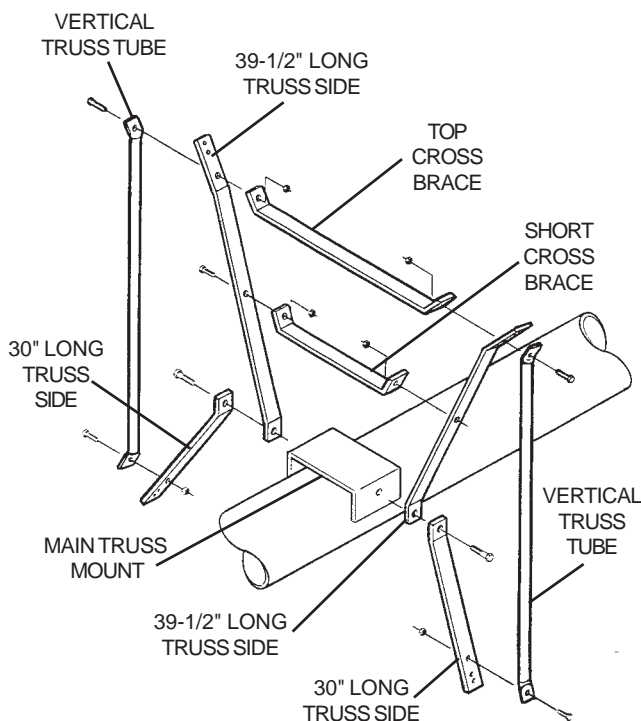

FIG. 32A
Step 2. Bolt the short cross brace between the 39-1/2" long truss sides using two 3/8" x 1-1/2" long (grade 5) hex head capscrews and nylon locknuts. Bolt the top crossbrace between the truss sides and the vertical truss tubes using two 3/8" x 1-1/2" long (grade 5) hex head capscrews and nylon locknuts. Bolt the other end of the vertical truss tube to the 30" truss sides using two 3/8" x 1-1/4" long (grade 5) hex head capscrews and nylon locknuts. See Figure 32A. Tighten the hardware holding the truss sides to the truss mount.